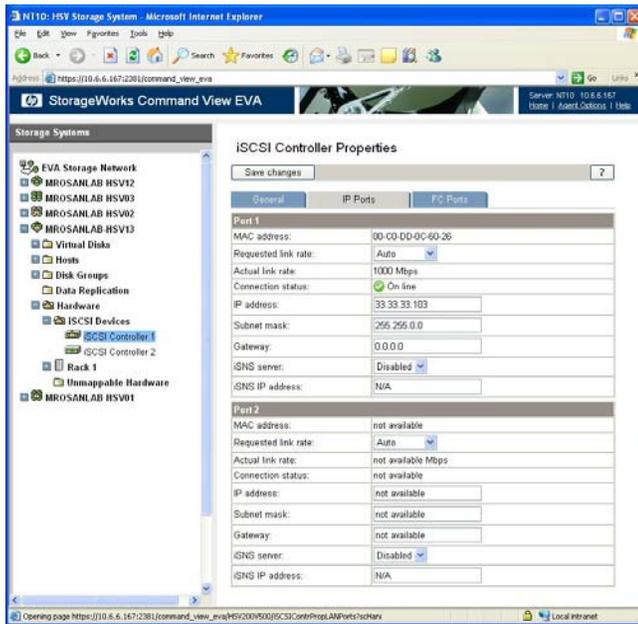

Figure 12 Hardware/iSCSI devices
7. Click **iSCSI Controller 1** under **Hardware/iSCSI Devices** (Figure 12).